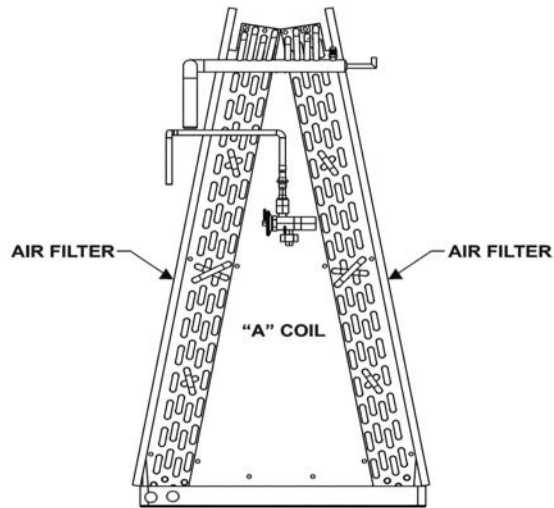

Figure 5: Reinstalling the Solid Coil Cabinet Door.
9. Lift the door up to the cooling cabinet and align the two tabs on the bottom of the door with the two slots on the center shelf. Refer to Figure 5.
10. Push the upper door forward until the strike on the cabinet top flange has been inserted into the door latch on each side the cabinet. Make sure the door is tight against the cabinet. Refer to Figure 5.
4. Remove the air filter at the top of the coil cabinet. The 20" x 24" x 1" filter is a disposable filter. **DO NOT** attempt to clean the filter and reuse it. Refer to Figure 5 for filter location.
6. Slide the air filter into the filter rack at the top of the coil cabinet as shown in Figure 5.
7. Lift the door up to the cooling cabinet and align the two tabs on the bottom of the door with the two slots on the furnace top cover. Refer to Figure 5.
8. Push the upper door forward until the strike on the cabinet top flange has been inserted into the door latch on each side the cabinet. Make sure the door is tight against the cabinet. Refer to Figure 5.